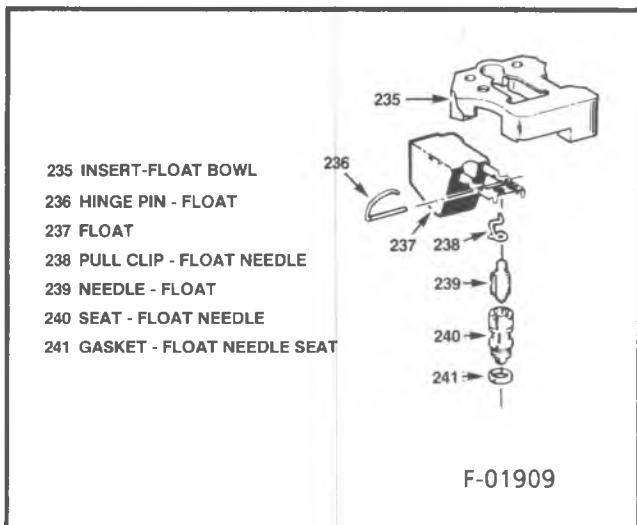

Figure 22 -- Float, Needle and Seat
- Remove or Disconnect** (Figure 22)